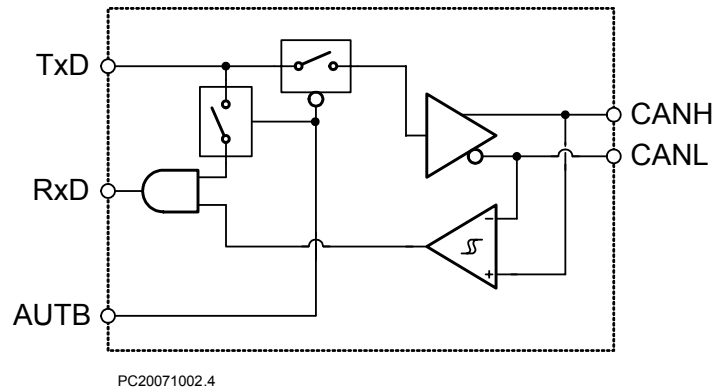

Figure 4: Simplified Schematic Diagram of Autobaud Function
1. Applied transient waveforms in accordance with ISO 7637 part 3, test pulses 1, 2, 3a, and 3b (see Figure 4).